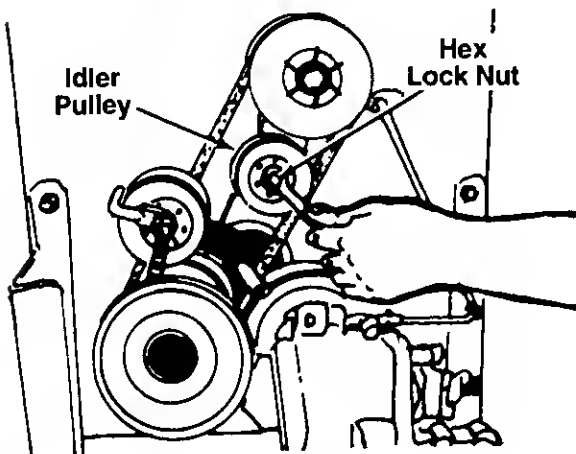

FIGURE 20.
8. Remove the idler pulley by removing the hex lock nut. See figure 20.